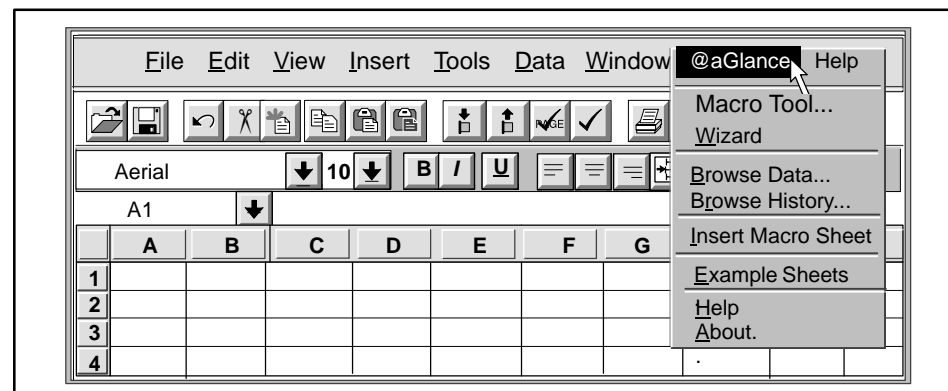

Figure A-2 Selecting the @aGlance Options
- Click **@aGlance** on the Excel menu bar to display the @aGlance/IT options (Figure A-2). If @aGlance does not appear on the menu bar, see page A-3 for a procedure that you can use to add it to the menu bar.